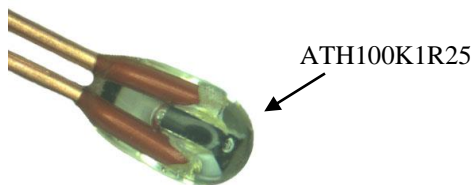
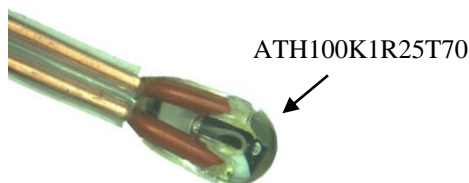
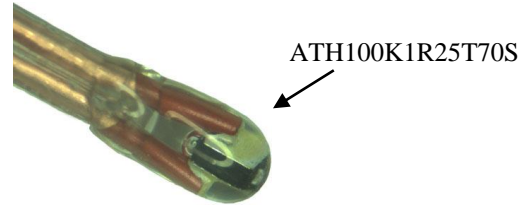

Figure 4.1. Bare Ledged Thermistor Head Photo
Figure 4.2. Tubing Ledged Non-sealed Thermistor Head Photo
Figure 4.3. Tubing Ledged Sealed Thermistor Head Photo
1. Do not bend the thermistor leads at the location that is too close to the thermistors body, to avoid breaking the glass coating, as shown in Figure 4.1, Figure 4.2, and Figure 4.3 below. Only bend the leads at the location that is at least 2mm away from the thermistor body.